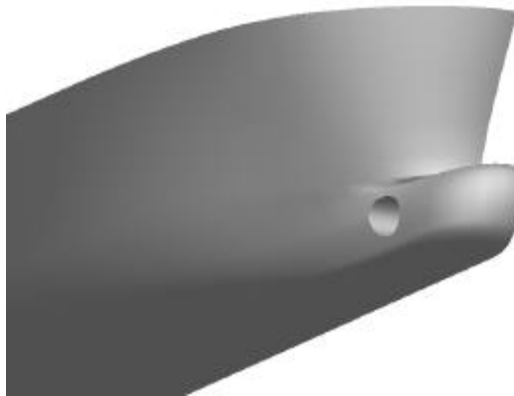

Figure 2-23: Rendered Hull Fwd group
9. If it is not selected, select the new group **Hull Fwd** and select **View-Render** to see the result. (See Figure 2-23.)